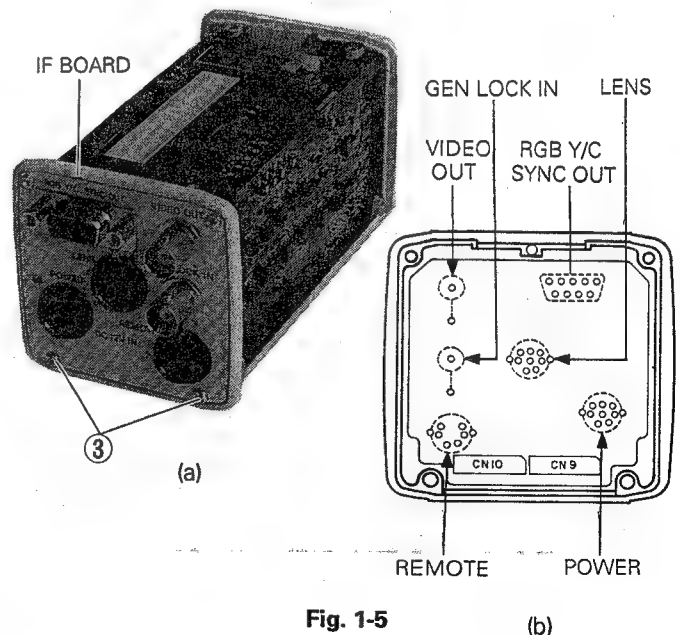

Fig. 1-5
2. Unsolder the connector at the points shown in Fig. 1-5(b).